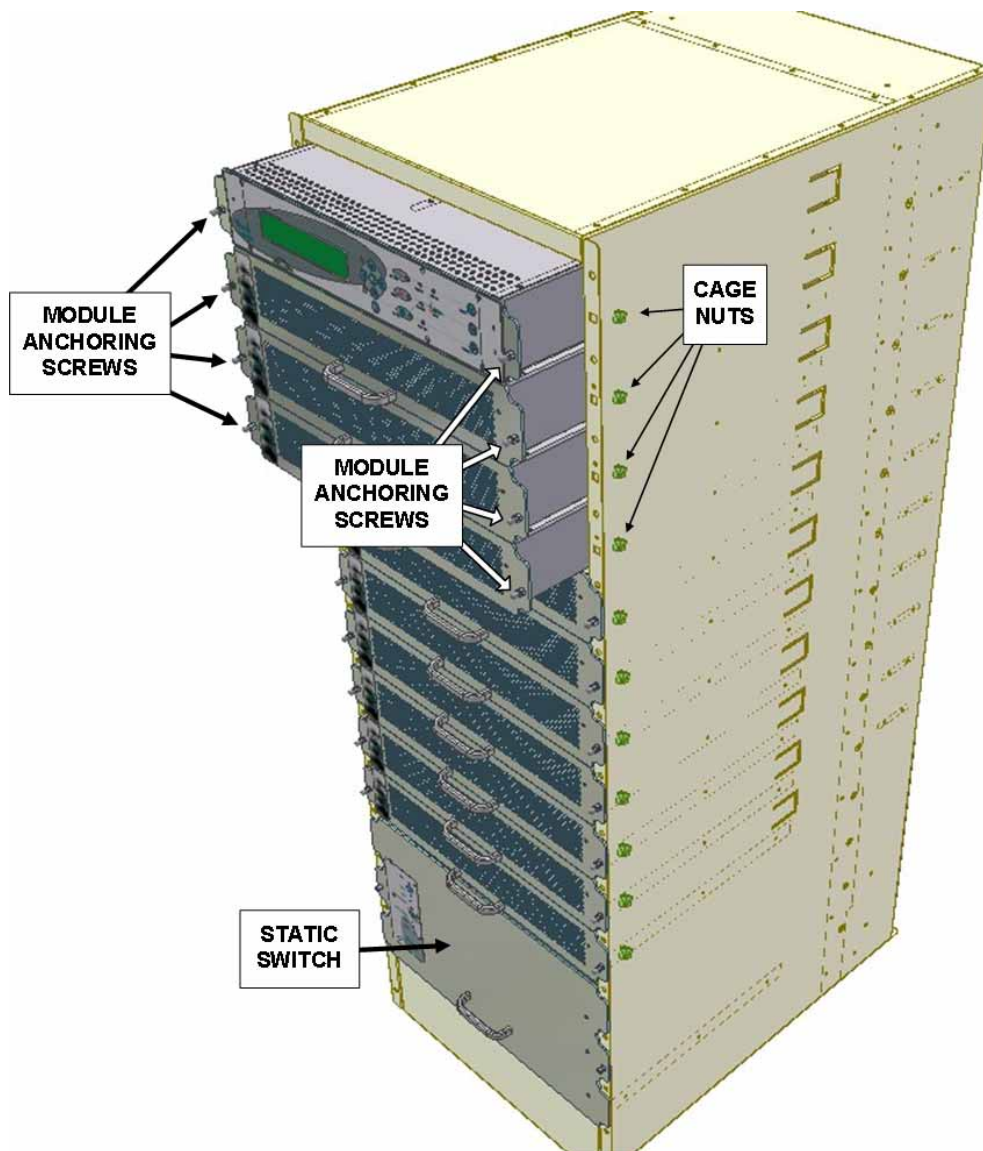
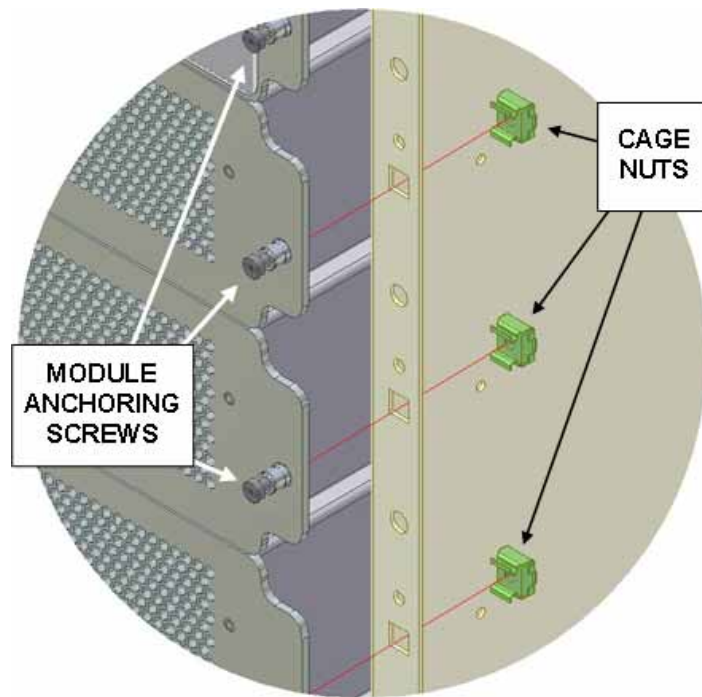

Figure 5: Installing the Freestyle in a rack (a)
Figure 6: Installing the Freestyle in a rack (b)
1. Remove the Power+ controller and the UPS modules from the Power+ chassis. This is accomplished by unscrewing the two screws – one on each side – that hold each module in place. (See Figure 5 and Figure 6 below.)